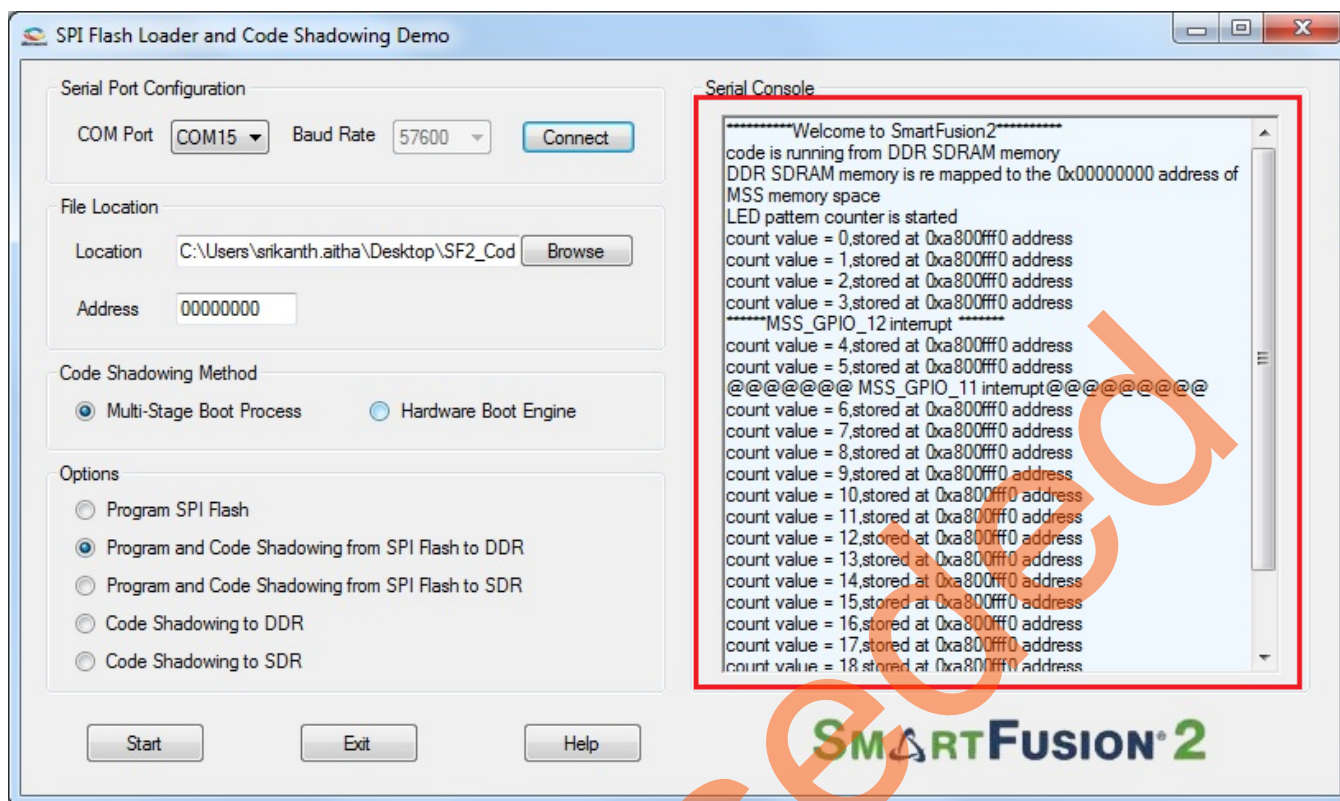
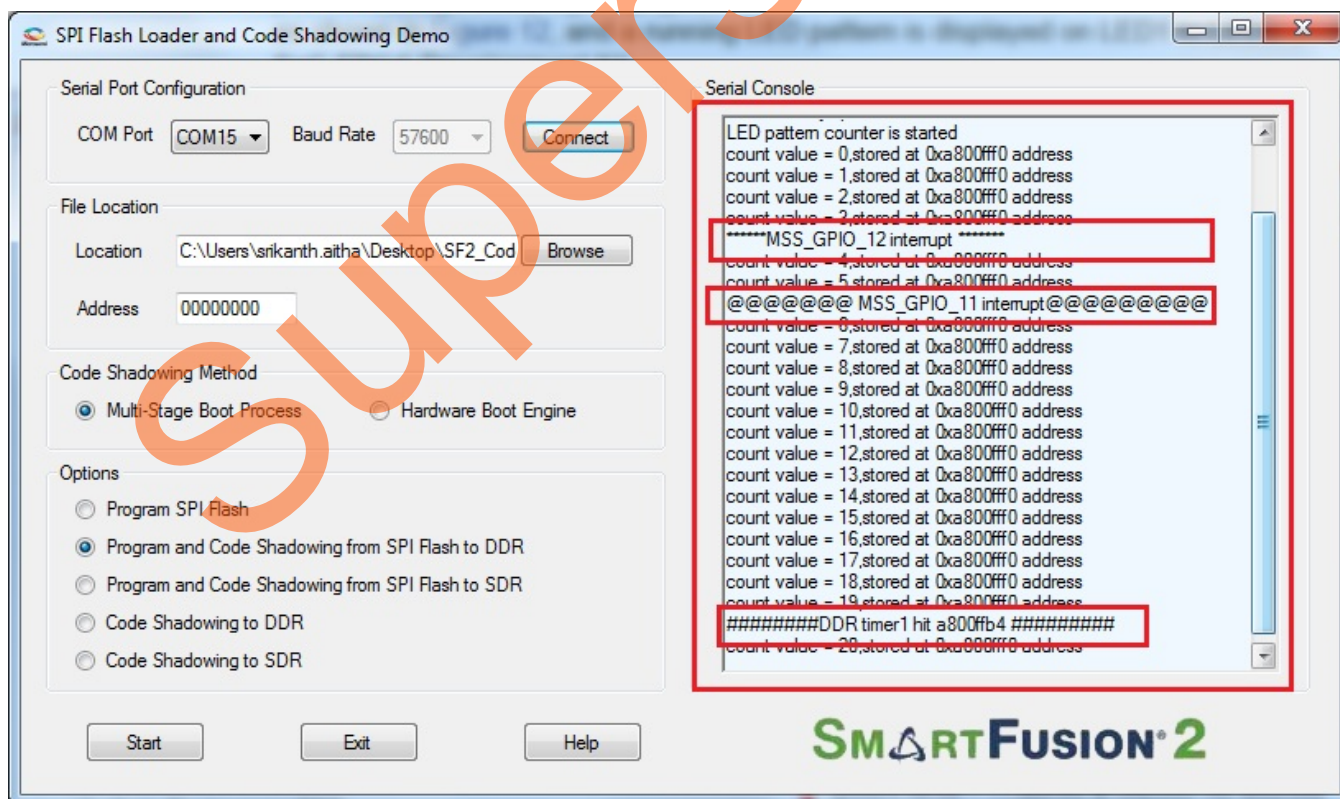

Figure 12. Running the Target Application Image from DDR3 Memory
Figure 13. Timer and Interrupt Messages in Serial Console
12. On programming the SPI flash successfully, the bootloader running on SmartFusion2 SoC FPGA copies the application image from SPI flash to the DDR memory and boots the application image. If the provided image sample_image_DDR3.bin is selected, the serial console shows the welcome messages, switch interrupt and timer interrupt messages as shown in Figure 12 and Figure 13, and a running LED pattern is displayed on LED1 to LED8 on the SmartFusion2 SoC FPGA Development Kit. Press **SW2** and **SW5** switch to see interrupt messages on serial console.